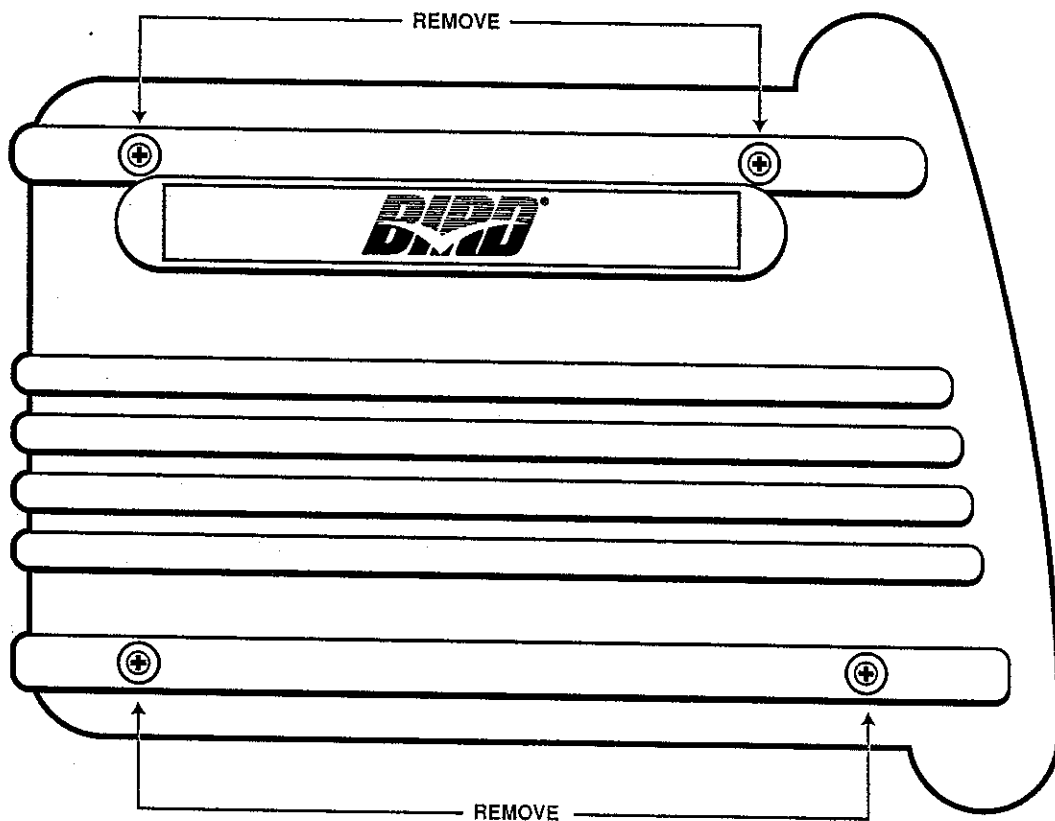

Figure 5-1. Ventilator Left and Right Side Cover Removal
- 1 Referring to Figure 5-1, use a Phillips screwdriver and remove the four (4) screws securing the left side cover .
- 1 Using Figure 5-1 as a reference, remove the (4) Phillips screws securing the right side cover to the ventilator chassis.